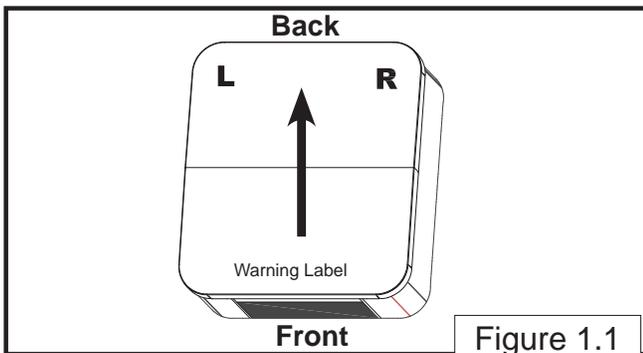

Figure 1.1
- 1a. Refer to (Figure 1.1) for the Left and Right cover lifter set orientation for (Front to Back) cover configuration:
- On a (Front to Back) cover configuration, the Left and Right cover lifter set will attach on back side of spa (Figure 1.1).